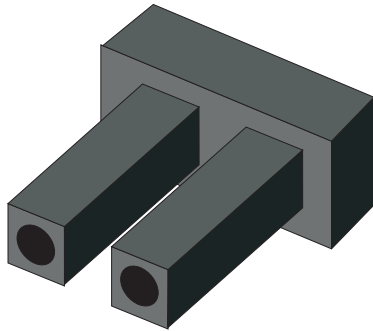

Figure 6: Fiber-Optic protective plug
- **Fiber-optic protective plug**—For safety and port transceiver protection, fiber-optic protective plugs, as shown in Figure 6, must be inserted in all director ports without fiber-optic cables attached. The director is shipped with protective plugs installed in all ports.